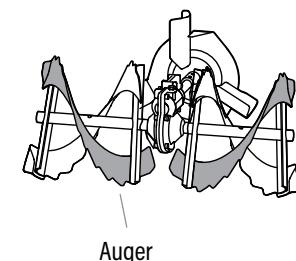

Fig. 19B
**Incorrect Installation:** The auger is reversed, which disrupts proper snow intake and reduces efficiency. (Fig. 19B)